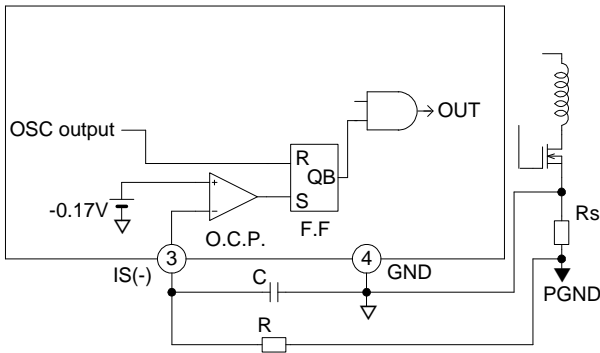
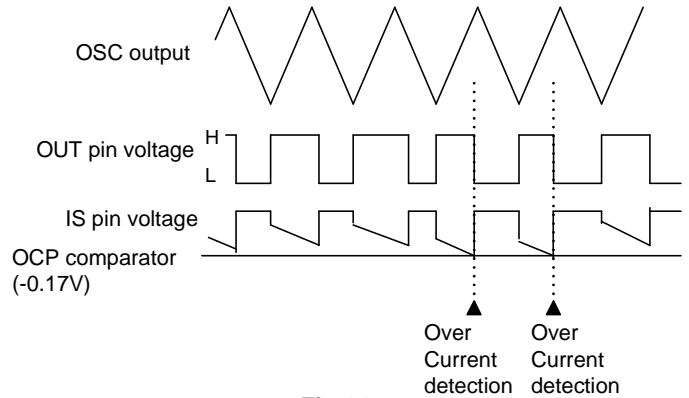

Fig.13
Fig.14
This circuit detects the peak value of every drain current pulse (pulse by pulse method) of the main switching MOSFET to limit the overcurrent, and the detection threshold voltage is -0.17V with respect to the ground level. **Fig. 13** shows overcurrent limiting circuit, and **Fig.14** is the overcurrent timing chart.
If the overcurrent limiting circuit malfunctions due to noise, place an RC filter between the IS pin and MOSFET as shown in **Fig. 13**. (See item 6 in "Design advice")